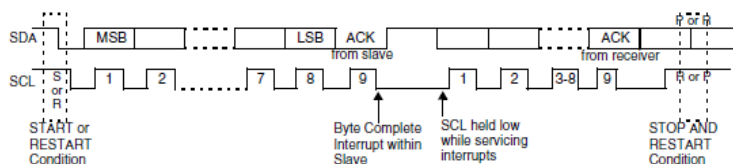

Figure 86: Data transfer on the I2C Bus
If the master (master-transmitter) is writing to the slave (slave-receiver), the receiver gets one byte of data. This transaction continues until the master terminates the transmission with a STOP condition. If the master is reading from a slave (master-receiver), the slave transmits (slave-transmitter) a byte of data to the master, and the master then acknowledges the transaction with the ACK pulse. This transaction continues until the master terminates the transmission by not acknowledging (NACK) the transaction after the last byte is received, and then the master issues a STOP condition or addresses another slave after issuing a RESTART condition. This behaviour is illustrated in Figure 86.
**Note 7:** The signal transitions for the START/STOP conditions, as depicted in Figure 86, reflect those observed at the output signals of the Master driving the I2C bus. Care should be taken when observing the SDA/SCL signals at the input signals of the Slave(s), because unequal line delays may result in an incorrect SDA/SCL timing relationship.